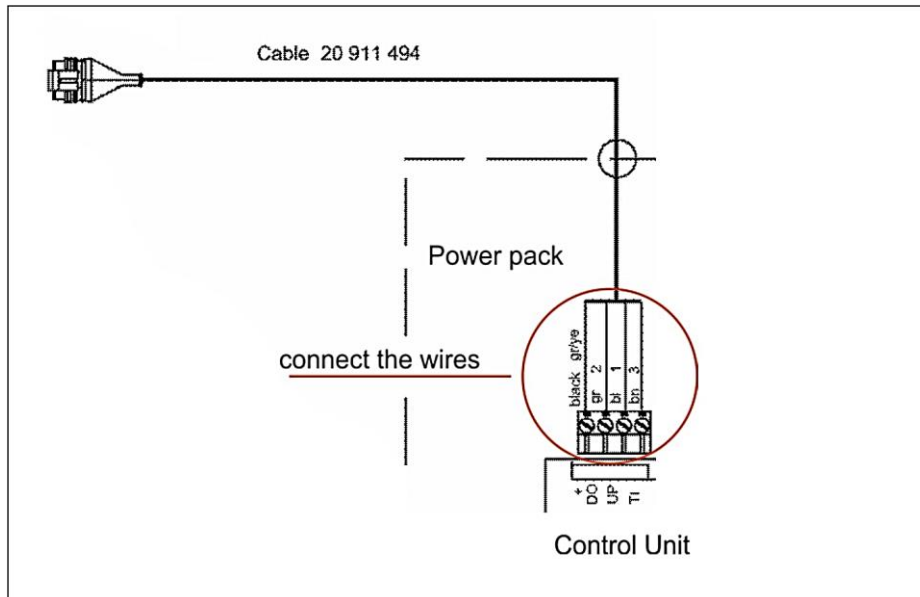

Figure 25
- Then reconnect the wires on the Control Unit (in the power pack) as in Fig. 25.